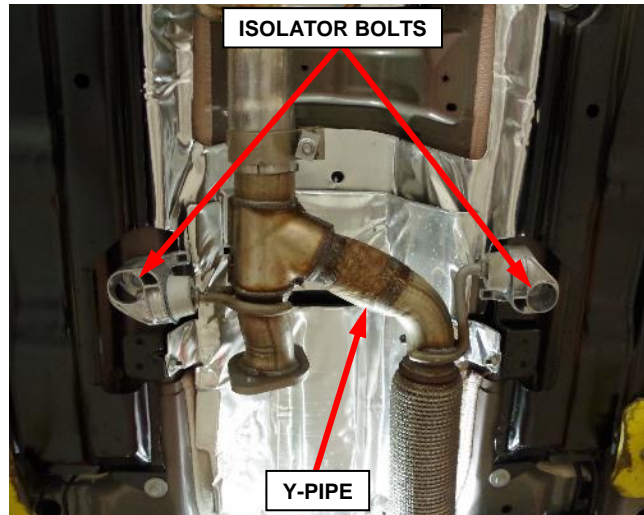

Figure 62 – Y-Pipe Isolator
- i. Remove the exhaust Y-pipe isolator bolts (Figure 62).